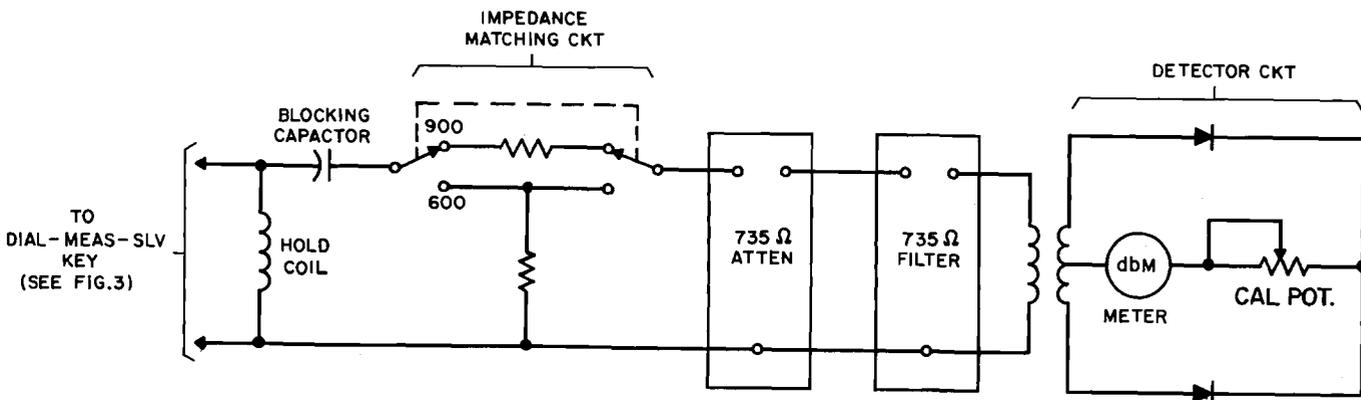

Fig. 2 - Simplified Schematic, 23A Transmission Measuring Set
3.01 The schematic of the 23A set may be separated into eight consecutive circuits or parts as follows: input, holding, blocking, impedance matching, attenuator, filter, detector, and meter. A simplified schematic of the circuit is shown in Fig. 2.